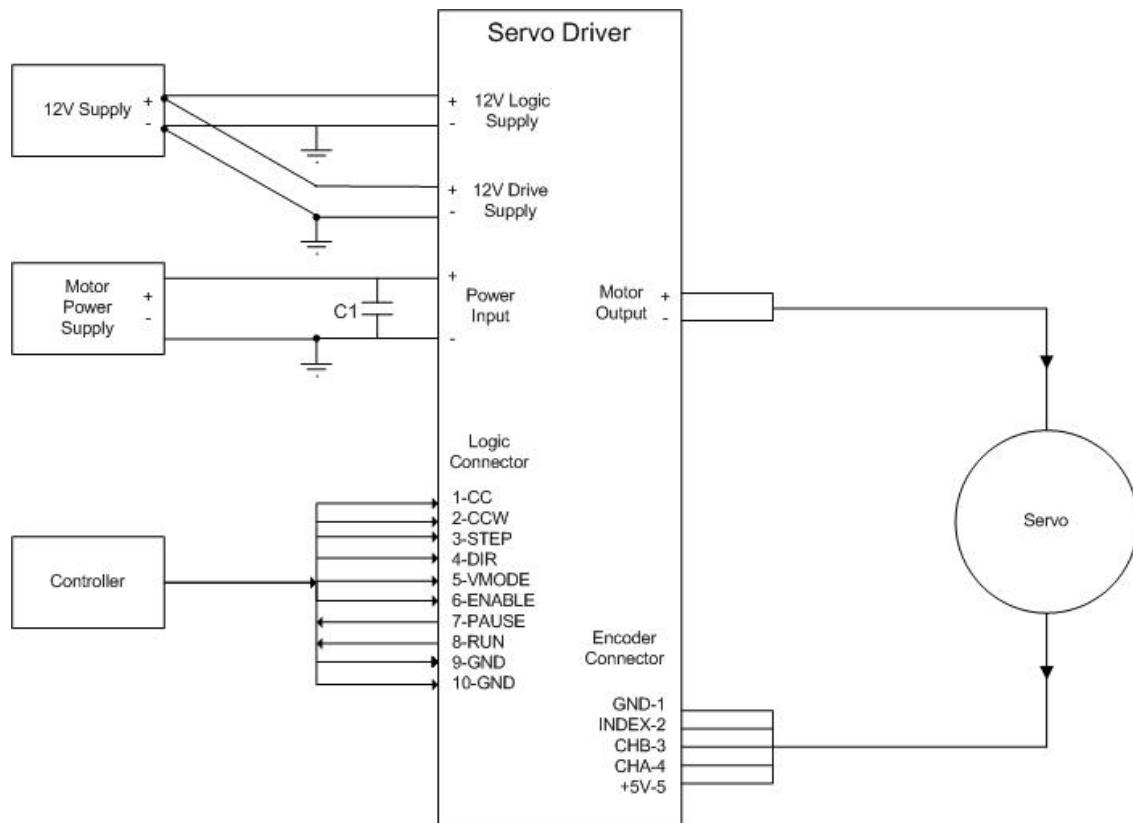

Figure 2 Diagram detailing all available connections
2. The addition of a capacitor (C1 in Figure 2 – Connection Diagram) near the power input terminal may be required to reduce supply ripple voltage. This is particularly important when using high input voltages.
Figure 2, above, details all available connections. The drive connections are all located along one end of the controller to provide easy access when mounted. The two boards in each controller possess separate power supply inputs in order to reduce any noise reaching the top processor board when used with high current motors.